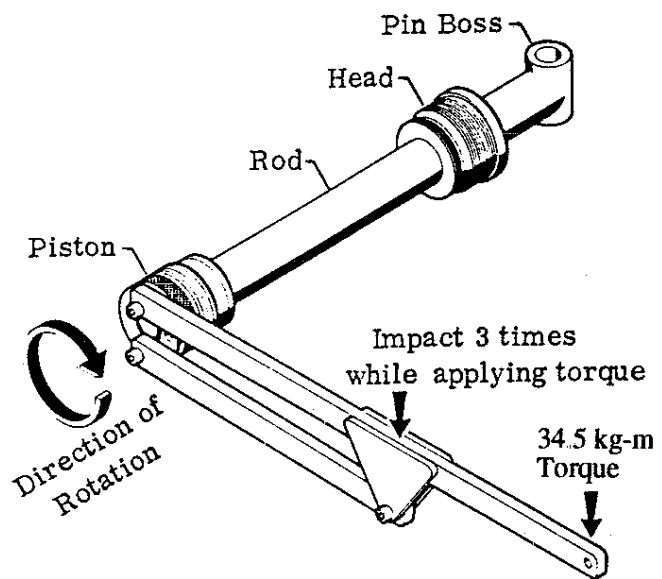

Figure G1-2. PISTON/ROD ASSEMBLY
3. Unscrew the head (Figure G1-2) with a spanner wrench (IMT part number 3Y140510). Withdraw the head from the cylinder case.
14. Torque the piston onto the rod at 35 kg-m. Impact the wrench three times with a heavy plastic hammer while maintaining the torque (Figure G1-2).